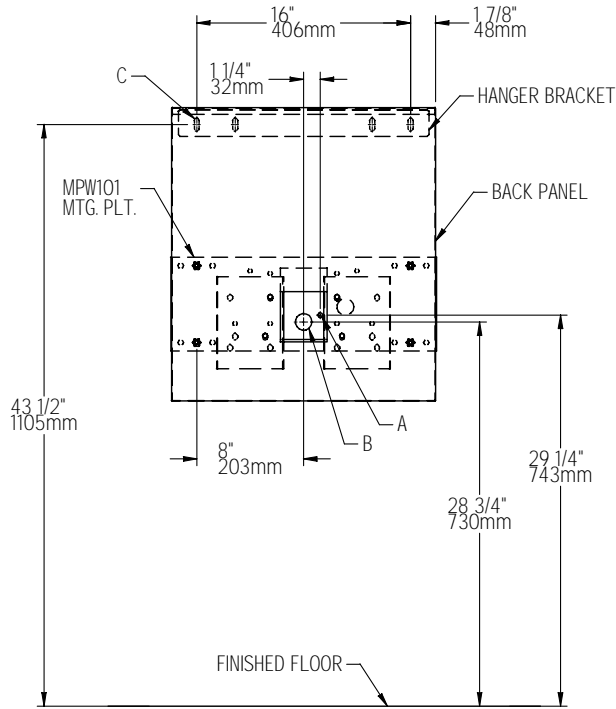

Figure 5 -Rough-in EDFPB(V)114C W/MPW101 MOUNTING PLATE
- Fountains using the MPW Mounting Plate** refer to Figure 5 for hanger bracket location and rough-in dimensions.